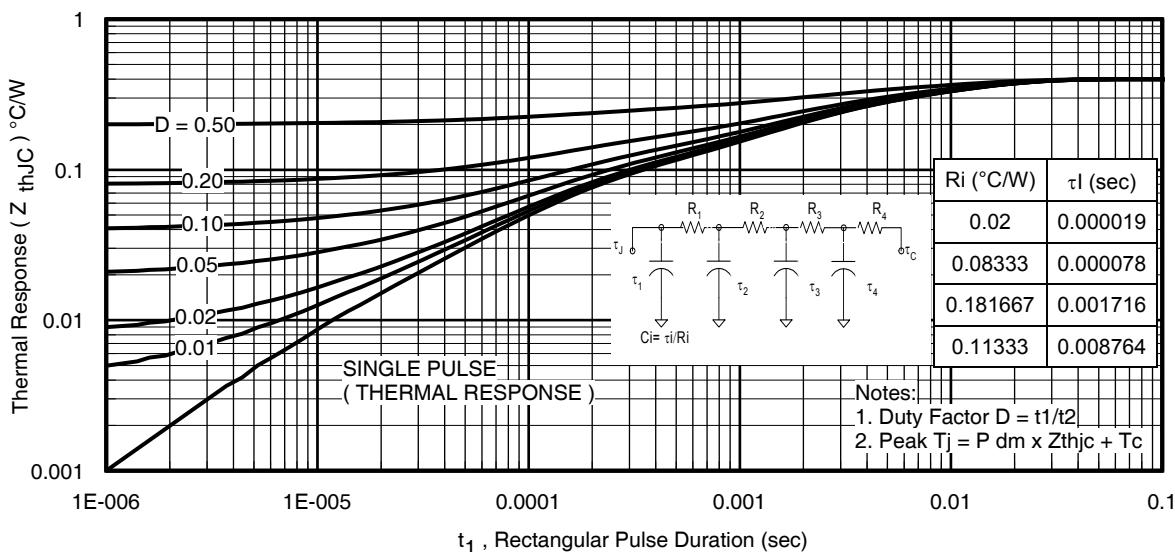

Fig 13. Maximum Effective Transient Thermal Impedance, Junction-to-Case
- $Z_{thJC}(D, t_{av})$ = Transient thermal resistance, see Fig 13.